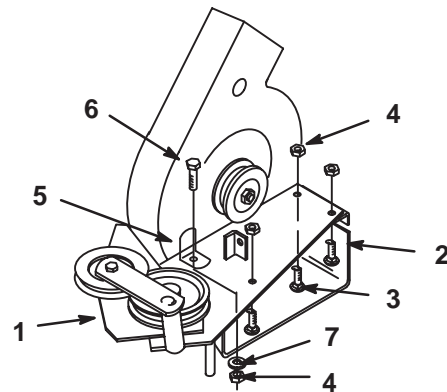

Figure 4
8. Assemble blower mounting plate to blower with three (5/16" x 3/4") carriage bolts and flange nuts (Fig. 4).
9. In the front inside hole of the blower insert a (5/16" x 1") bolt. Inside the blower housing slide the L-bracket over the bolt. Hold the L-bracket tight against the blower housing wall and secure with washer and flange nut (Fig. 4).